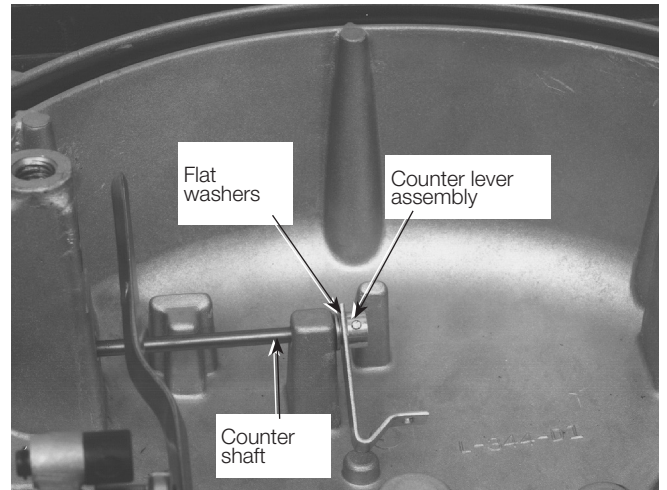

Figure 17. Driving out pins in counter shaft
8. Drive out roll pin that secures counter lever assembly to counter shaft, see Figure 17. Remove shaft. Note location of flat washer that separates counter lever assembly and head casting post.
1. Install counter parts first, carefully secure with rollpin, see Figure 17.